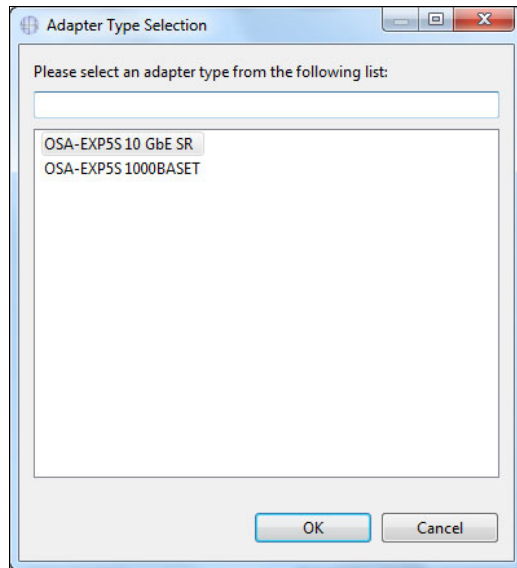

Figure 8-72 CMT - Adapter Type Selection
3. The tool shows a list of available and compatible card types for the CHPID (Figure 8-72).